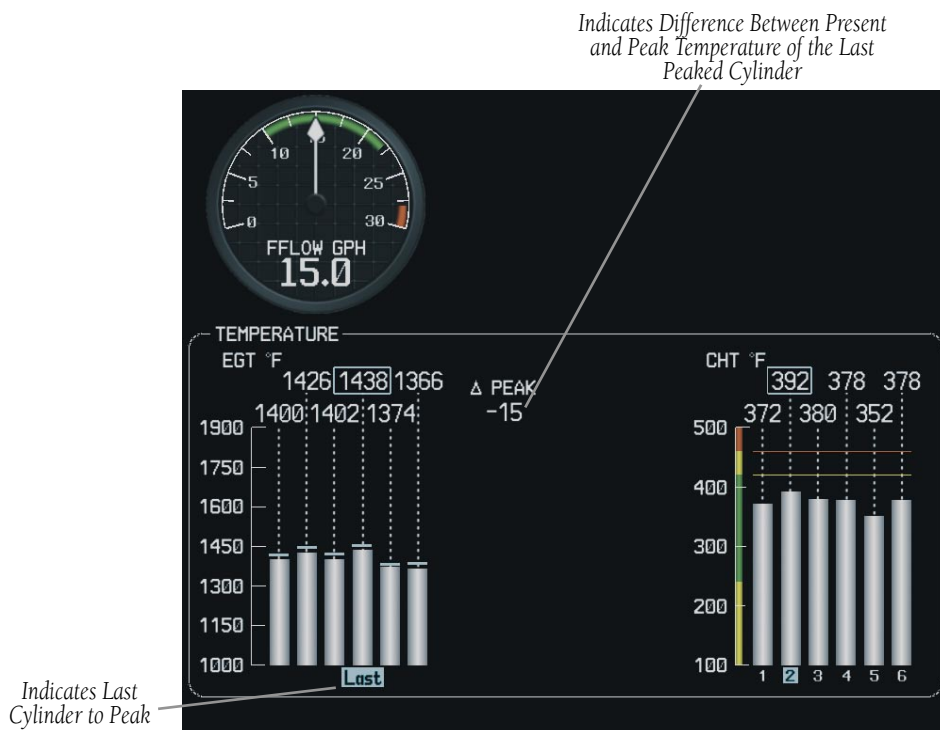

Figure 3-4 Engine Leaning Assist Display - Last Peaked Cylinder (Columbia 350)
- 4) Continue leaning the mixture until the last of the cylinders peaks. This is indicated by 'Last' being displayed below the last peaking cylinder as shown in Figure 3-4.